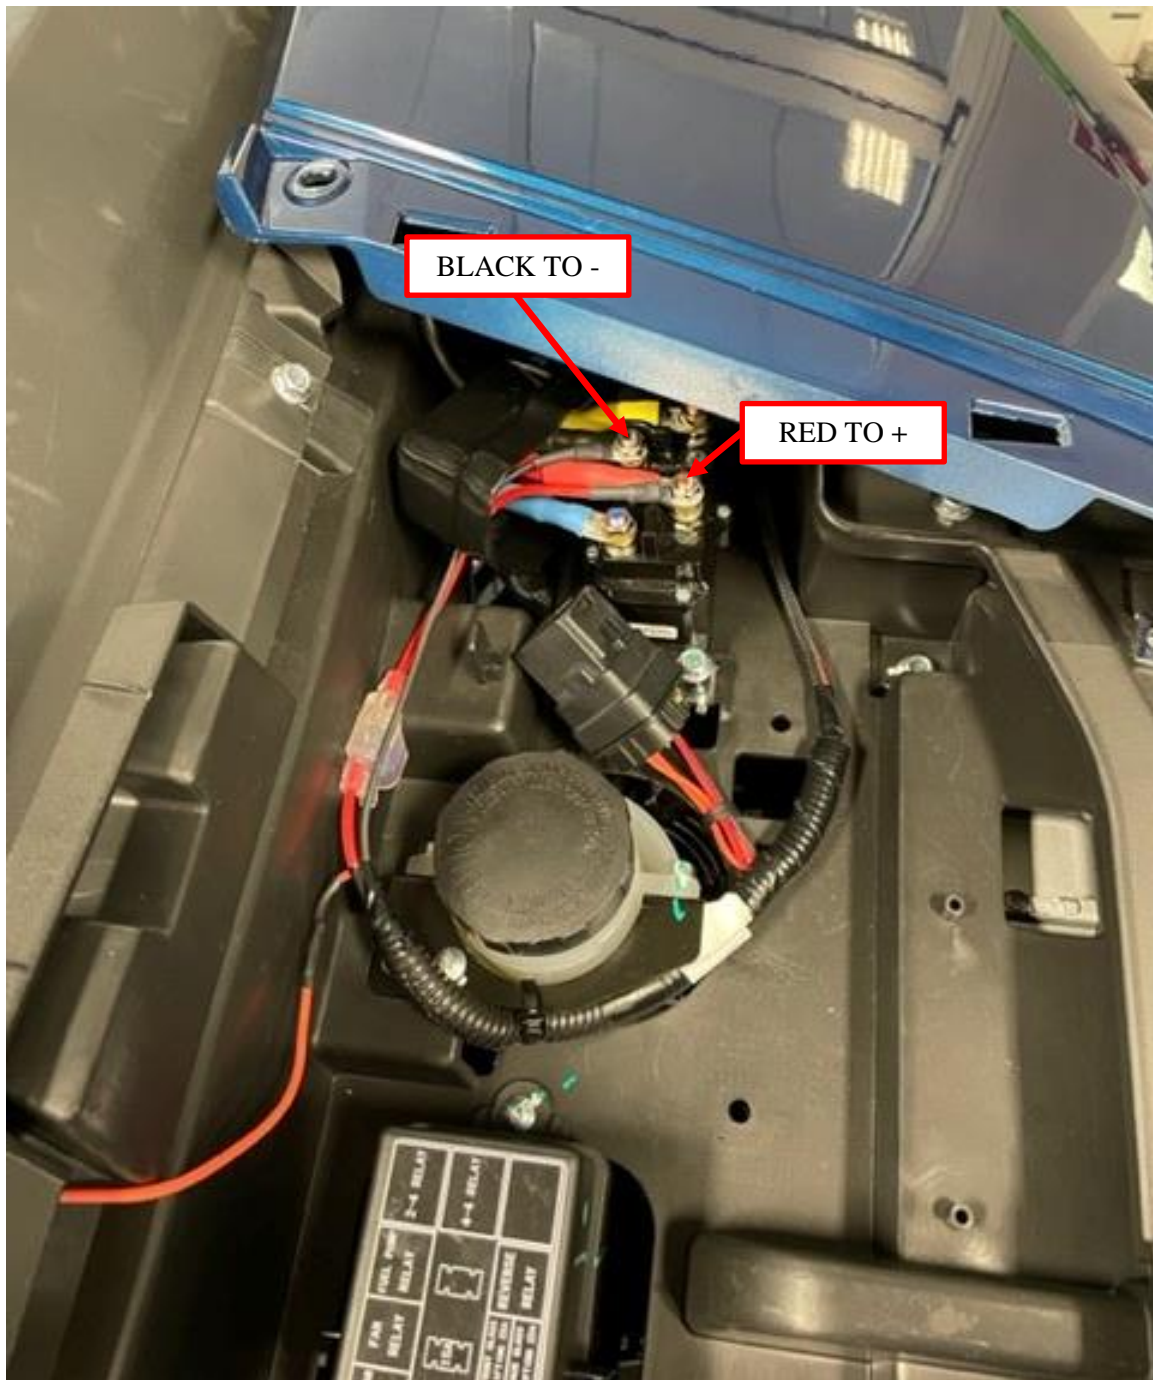

Figure 18: Winch contactor cable connections.
16. Connect the chassis harness battery cables to the winch contactor, clamping the cables on top of the existing cables with the factory hardware. Connect the red harness wire to the terminal with the existing red battery cable (+ 12V). Connect the black harness wire to the terminal with the existing black battery cable (- 12V). Place the plastic contactor cover back over the cables once all connections are made. See Figure 18.